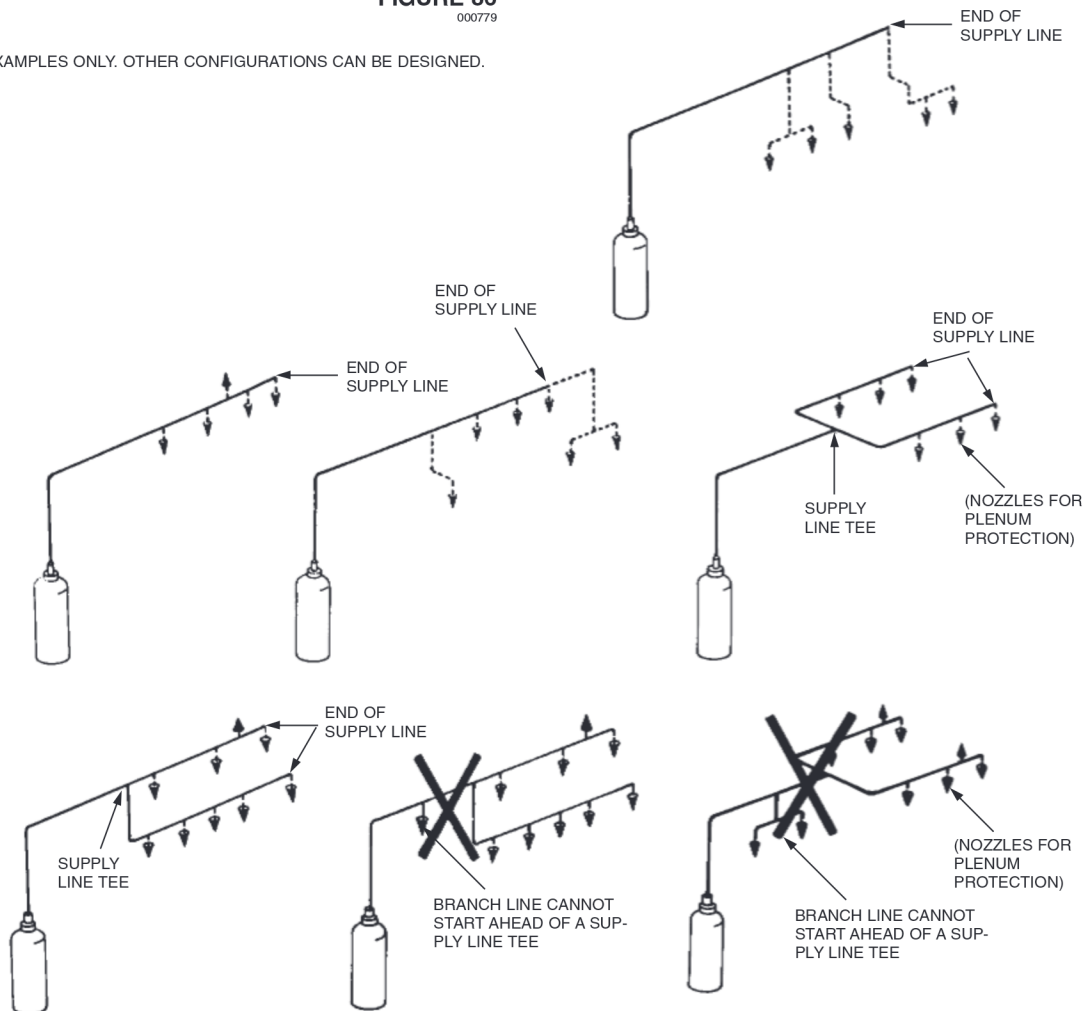

FIGURE 87
► See Figures 87 and 88.
The Appliance Branch Line is defined as the length of pipe which runs from the supply line to the appliance nozzle(s). This includes all branch line fittings as well as the tee or elbow used to start the branch line. See Figures 87 and 90.